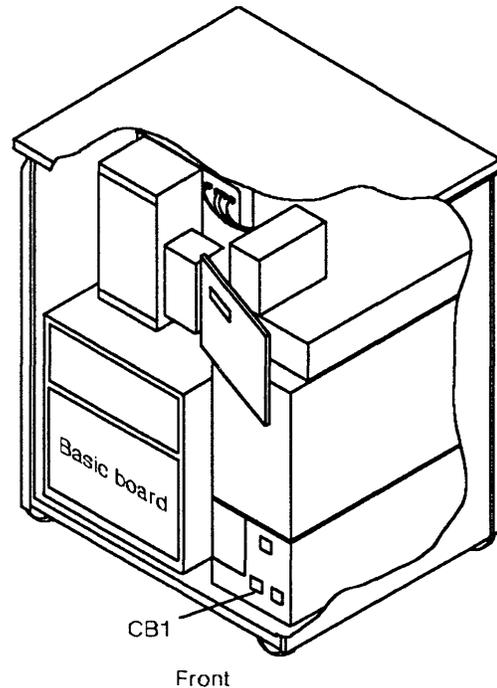

Figure 4-45. Basic Board and CB1 Locations
4. **Switch CB1 OFF.** Refer to Figure 4-45.
5. Locate the Basic board. Refer to Figure 4-45.